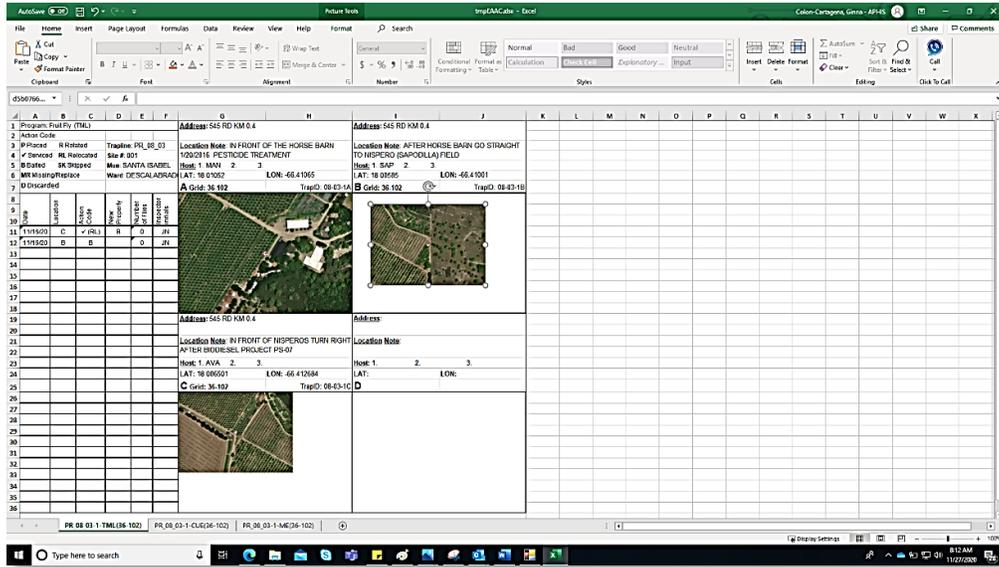

Figure 15. Editable FFD-2 Records
**Step 7: An .xlsx spreadsheet opens and images can be adjusted. (Figure 15)**